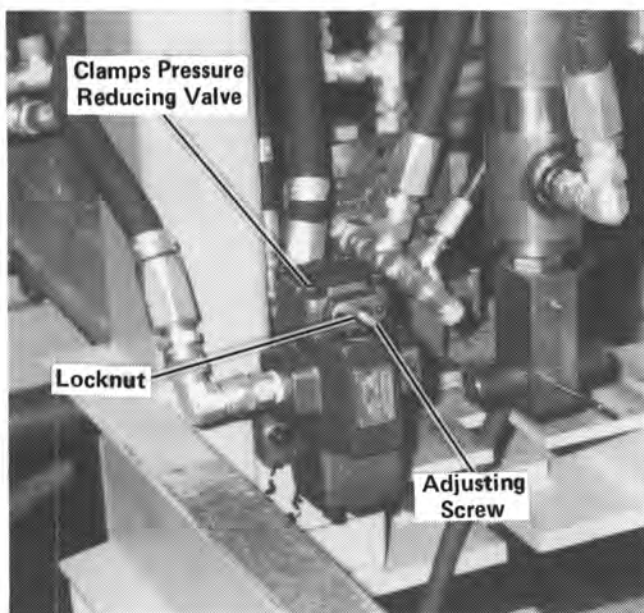

Figure 34
4. Loosen the locknut on the clamps pressure reducing valve and turn the adjusting screw inward (clockwise) to increase the pressure or outward (counterclockwise) to decrease the pressure until the pressure on the gauge reads 300 psi. Tighten the locknut. See Figure 34.